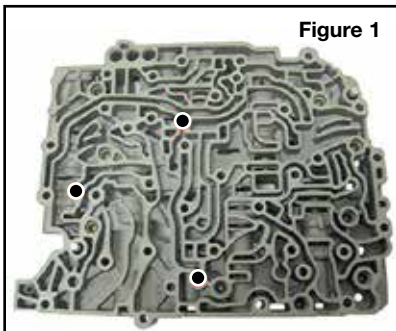

Figure 1
- d. Install checkballs in locations indicated (Figure 1).